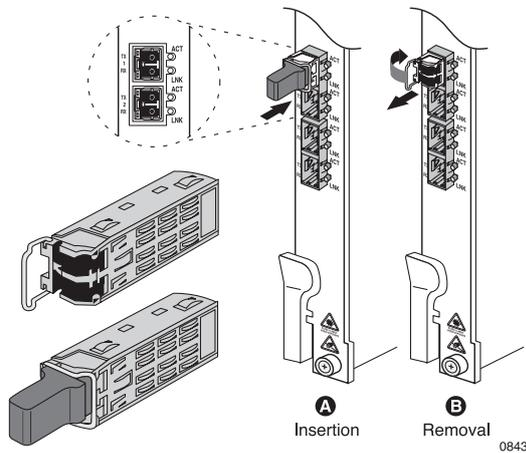
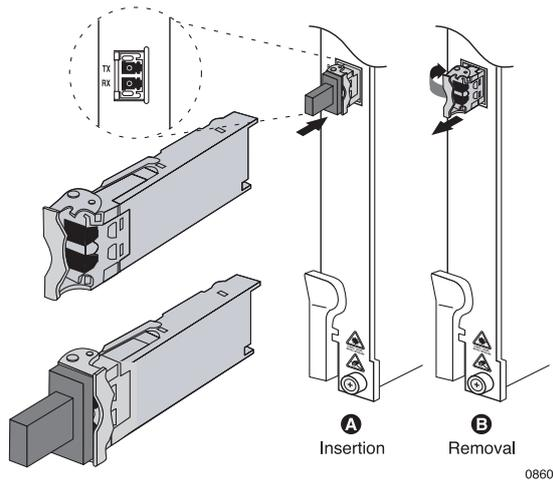

Figure 21 Installing an SFP Transceiver
Figure 22 Installing an XFP Transceiver
3. With the transceiver connectors aligned with the RX and TX labels on the front panel of the line card (as shown in Figure 21 or Figure 22), slide the transceiver into the opening for the port until the rear connector is seated and the locking mechanism snaps into place.